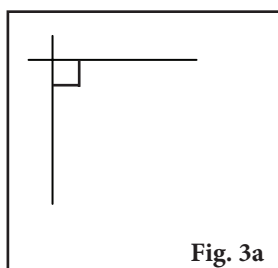
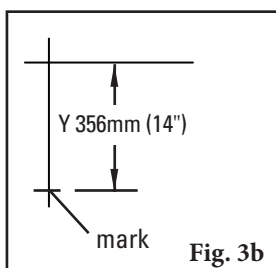
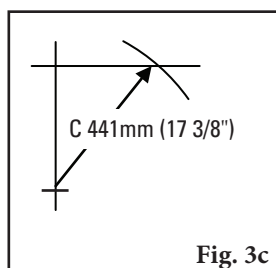
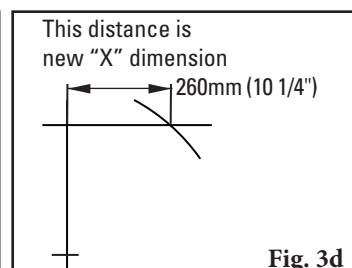

Fig. 3a
Fig. 3b
Fig. 3c
Fig. 3d
- 3. Determine final dimension.** On a flat vertical surface, using a level, draw one horizontal line and one vertical line creating a right triangle (Fig 3a). Measure down from the intersection the determined “Y” dimension and mark (Fig 3b). With the tape measure starting at the modified “Y” mark, swing the tape across the “X” line and mark at the “C” dimension where it crosses the “X” line (Fig 3c). Measure from the intersection to the “C” intersection and this will be your new “X” dimension (Fig. 3d).